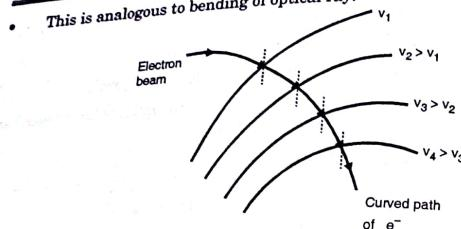

Fig. 7.9.1 : Curved path of electron beam
- If we take a non uniform electric field represented by more than one equipotential surfaces separating equipotential regions of potentials  $V_1, V_2, V_3, V_4, \dots$  etc. as shown in Fig. 7.9.1, a curved path of electron motion can be observed.